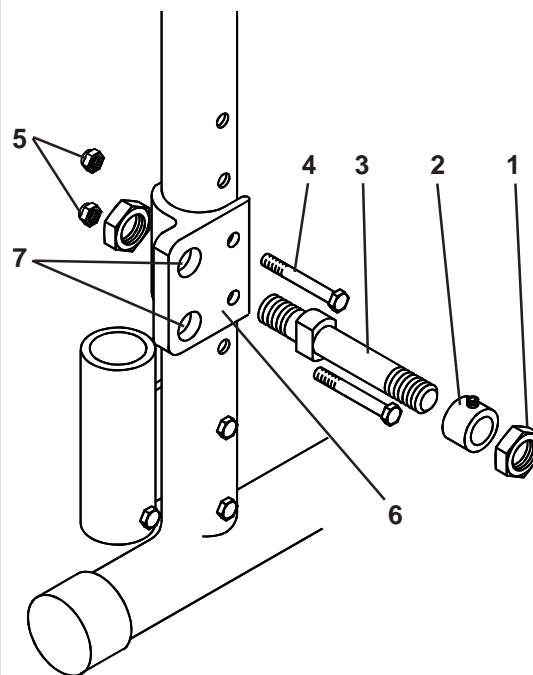

Fig. 40
To adjust the centre of gravity (Fig. 40) remove the wheel, by unscrewing the 19mm A/F retaining nut (1, if quick release axles are not fitted), the wheel spacer (2, if fitted), the axle (3), the two bracket retaining bolts (4) and nuts (5) using 10mm A/F spanners. Move the bracket (6) to the rear position, as shown, and replace the bolts and retaining nuts and tighten them to 8-10Nm torque setting, replace the axle in the required hole (7) and tighten to 81Nm. Relace the wheel, spacer and retaining nut and tighten to 45Nm.